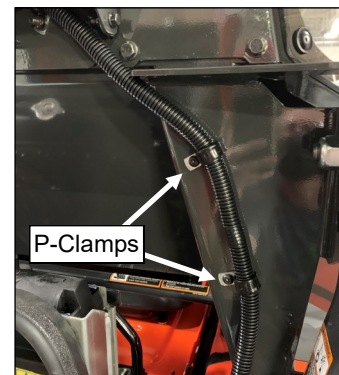

Fig. 7.1 (P-Clamp Wire Harness to ROPS Bracket)
7.1 See fig. 7.1. Cut the cable ties securing the wiring harness and attach the harness to the lower ROPS brackets with p-clamps as shown.